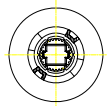

Fig .9
A. See Fig.9. This is the coldest position. If the Rotational Limit Stop in this position, the mixing water temperature is 38°C (approximate).